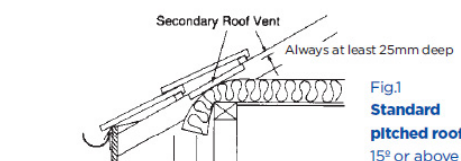

Fig.1
- With a standard pitched roof where the pitch of the roof is 15 degrees or greater and the roof space is an attic or loft a free airflow is required which is equivalent to a continuous 10mm opening (10,000 mm² per metre run). See Fig.1
- With a standard pitched roof where the pitch of the roof is 15 degrees or greater and the roof space is an attic or loft a ventilation channel at least 25mm deep must be maintained between the roof insulation and the underside of the roof covering. See Fig.1